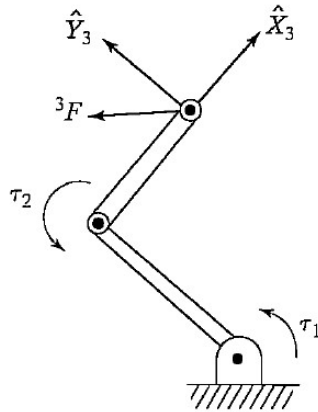

Fig. Q.5
- Q.5 The two-link manipulator shown in Fig. Q.5 is applying a force vector 3F with its end-effector. Consider this force to be acting at the origin of $\{3\}$. Find the required joint torques as a function of configuration and of the applied force. [5] 2 3